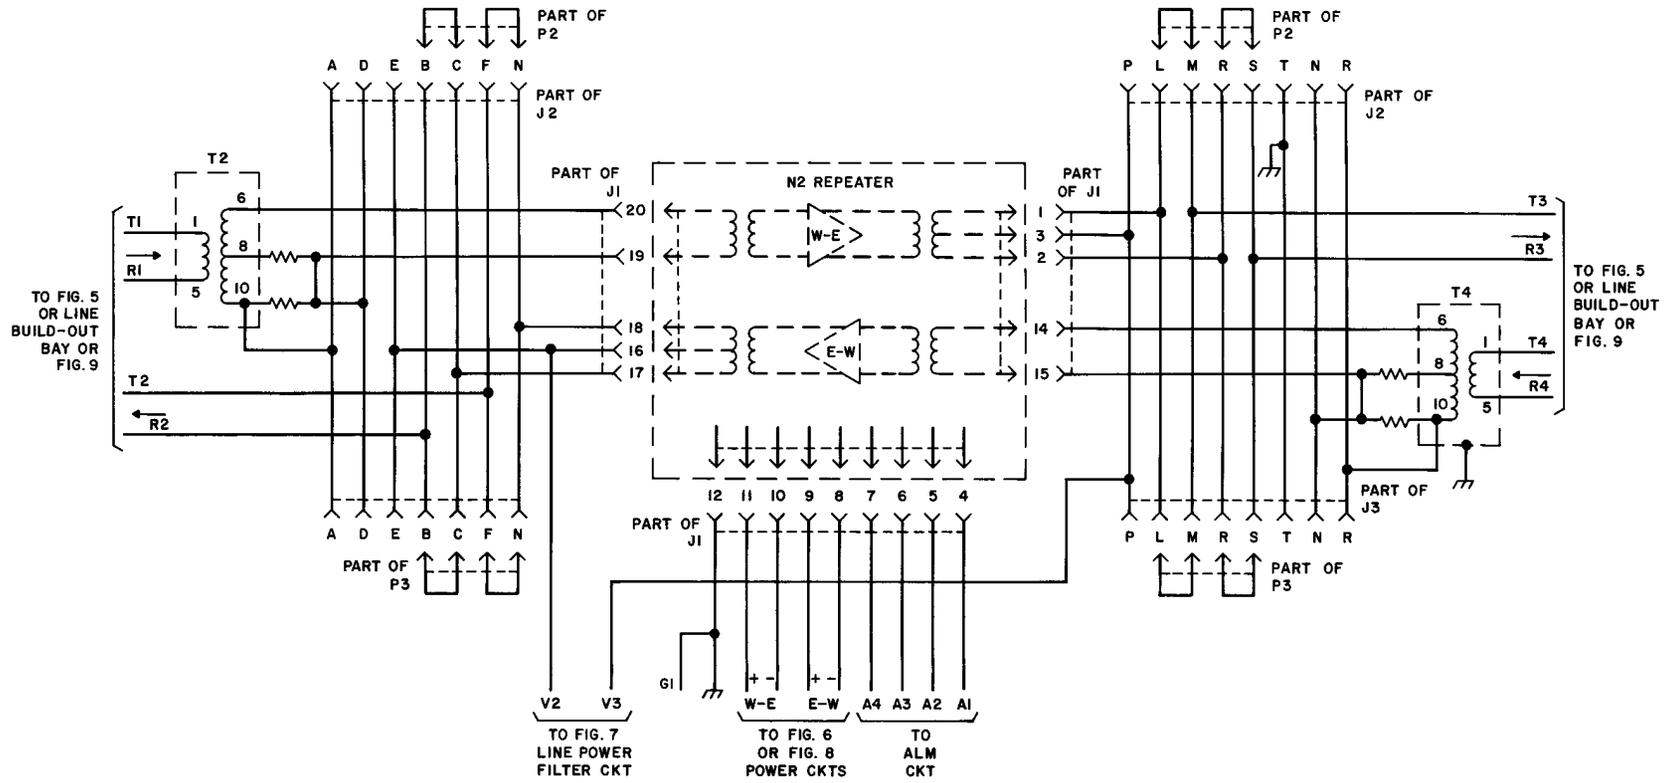
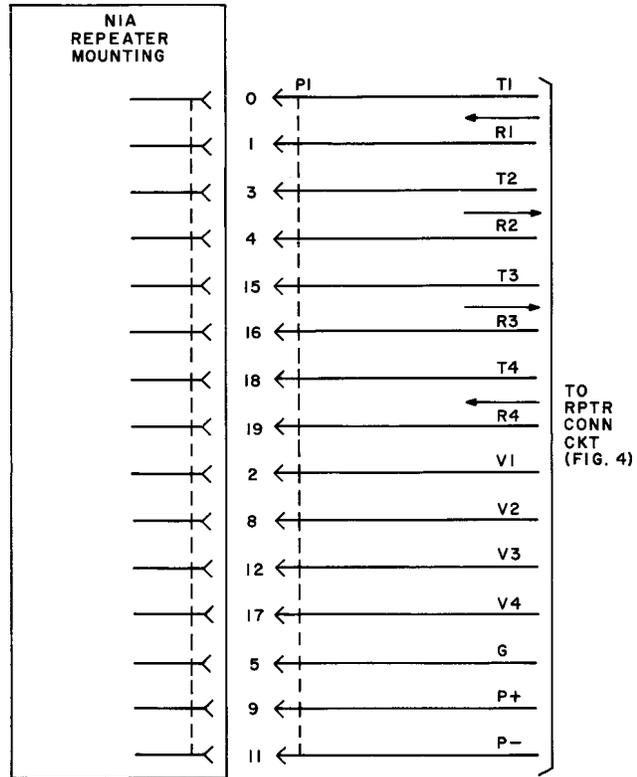

Fig. 4 — N2 Repeater Connecting Circuit
Fig. 9 — Adapter Connector Circuit
3.02 A schematic drawing of the repeater connecting circuit is illustrated in Fig. 4. The receive or input pairs from the line build-out circuit connect to transformer T2 in one direction of transmission and to transformer T4 in the other direction of transmission. The hybrid arrangement in the secondary of these transformers provides a means of coupling the received carriers to the N2 repeater via jack J1 and to external test equipment via jack J2 or J3 without introducing level changes in these circuits. The repeater outputs at jack J1 are connected to the transmit pairs in both directions via paralleled jacks J2 and J3 in conjunction with shorting plugs P2 and P3.
3.08 A carrier failure alarm is provided in each repeater for each direction of transmission. The path for these alarms is from the repeater to the mounting shelf via jack J1, and then to an alarm circuit via leads A1 through A4 (see Fig. 4). These leads are wired in tandem with similar leads from other repeaters at the same location to trigger relays which convey information (through the voice pairs) to a maintenance terminal.
4.01 The N2 repeater may be installed in an N1A repeater mounting bracket through the use of the N2 repeater to N1A adapter assembly. The adapter circuit shown in Fig. 9 is identical to that used in the N2 repeater mounting shelf except for the plug P1 which connects the adapter to jack J1 in the N1A repeater mounting bracket. This includes use of the circuits shown in Fig. 4, 5, 6, 7, and 8, as required, to meet the needs of the transmission system at that repeater location.